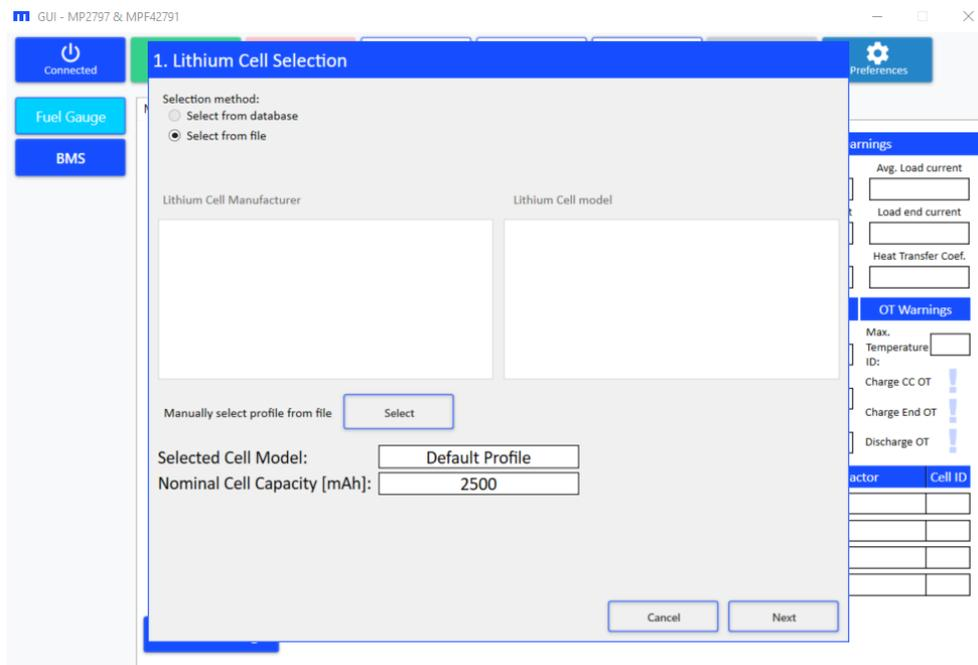

Figure 33: Configuration Wizard 1 – Cell Profile Selection
- The wizard to select the cell profile should open. To use a new profile, click “Select” and use the file explorer to select a valid “.xml” file containing a cell profile (see Figure 33).
- Click “Next” after making the cell selection. The Battery Pack Configuration window should open (see Figure 33).